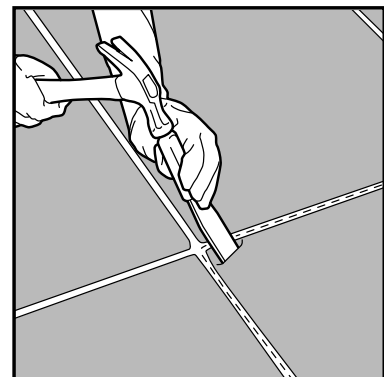

FIGURE 26
- Next, heat the tile a few inches in from the corner. While the tile is warm, drive a putty knife or screwdriver into the heated area with a hammer (Fig. 26).